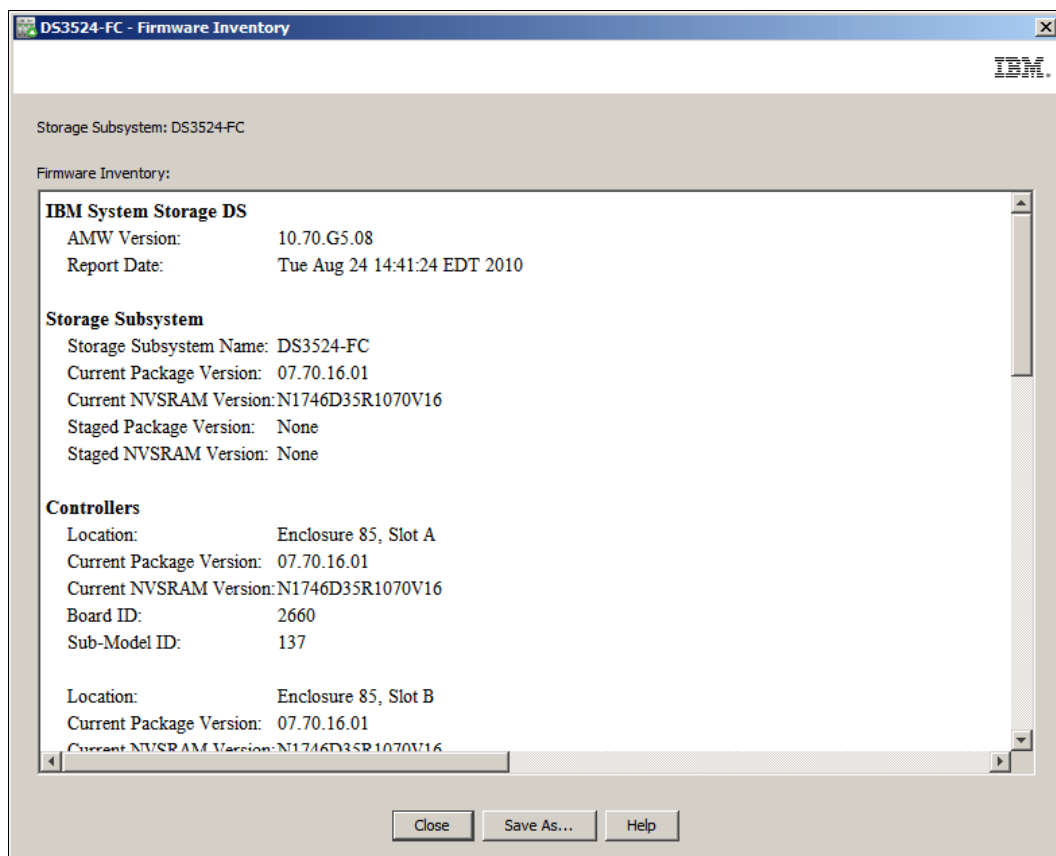

Figure 14-34 Storage Subsystem Firmware Inventory
1. Click **Advanced** → **Maintenance** → **Firmware Inventory** in the Storage Subsystem window. Figure 14-34 shows the Firmware Inventory window that displays.